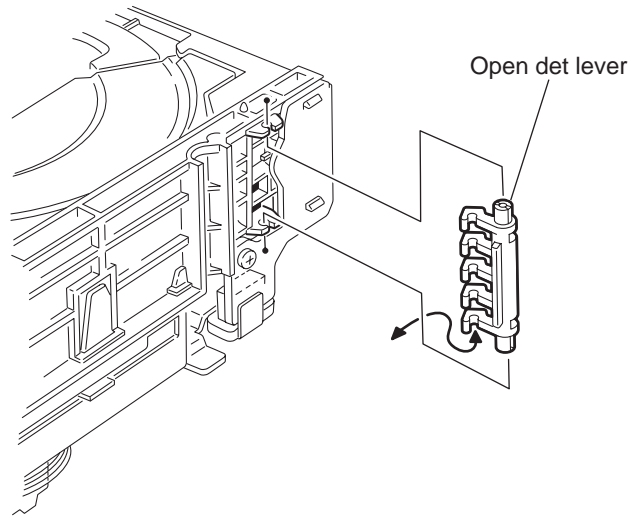

Fig.3
- (3) Remove the open det lever on the left side of the DVD changer mechanism assembly. (See Fig.3.)